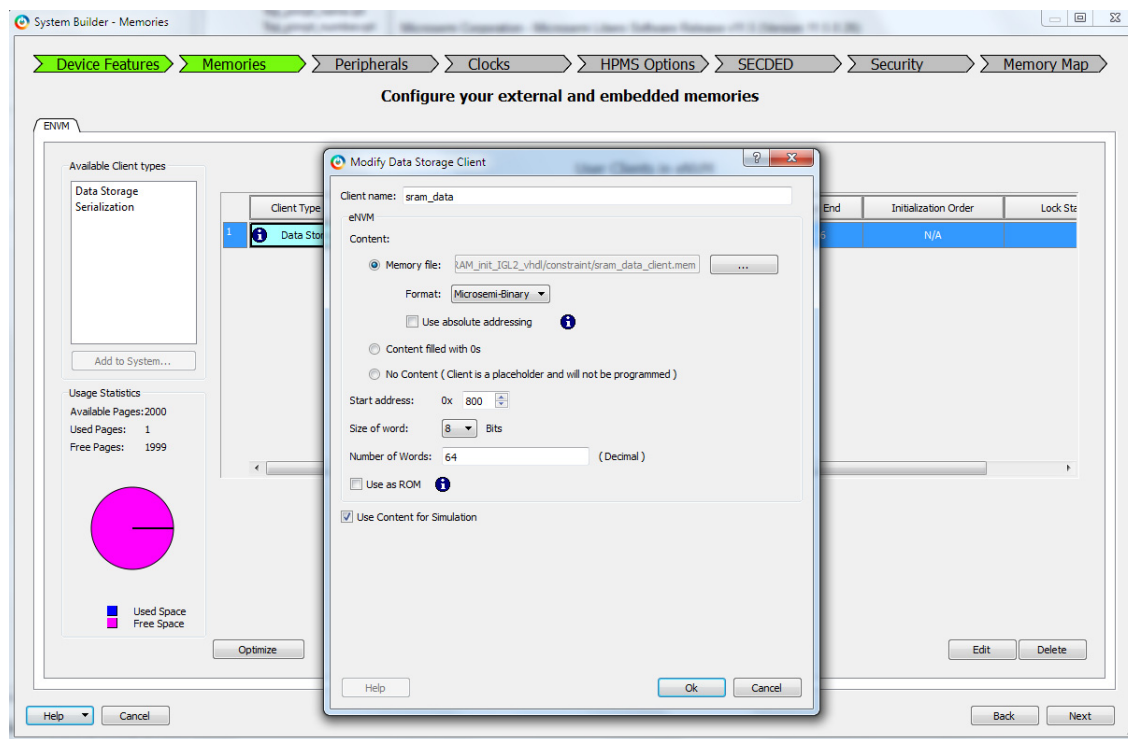
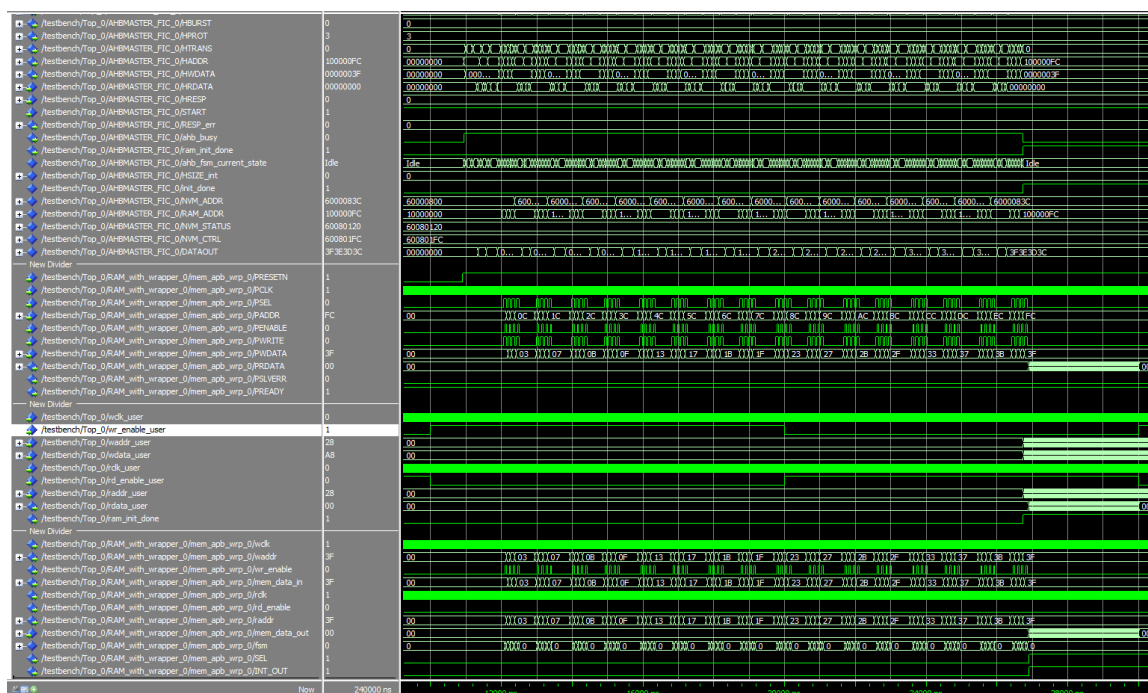
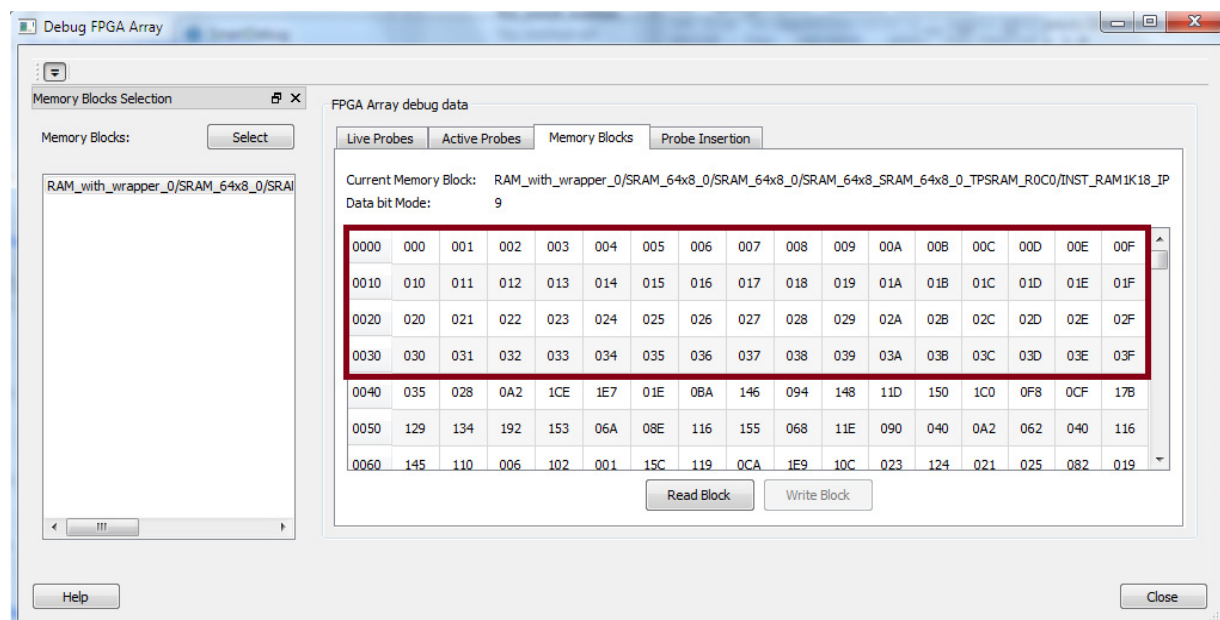

Figure 1 • eNVM Configurator GUI
Figure 5 • Fabric Master Design Example Waveform
Figure 6 • HyperTerminal Showing Design Example
In the design examples, a data storage client is created to load the SRAM initialization, which is configured to be 64 x 8. Figure 1 shows the eNVM Configurator and the data storage client graphical user interface (GUI) in Libero SoC. To allow the eNVM data storage client for simulation, select the **Use Content for Simulation** check box.
Figure 5 shows the simulation waveform.
4. Open SmartDebug in Libero SoC and look at the SRAM content. The SRAM content must match with a data file that is loaded in eNVM through data client, as shown in Figure 6.
Updated Figure 1 , Figure 5 , and Figure 6 .	4 , 10 , and 11